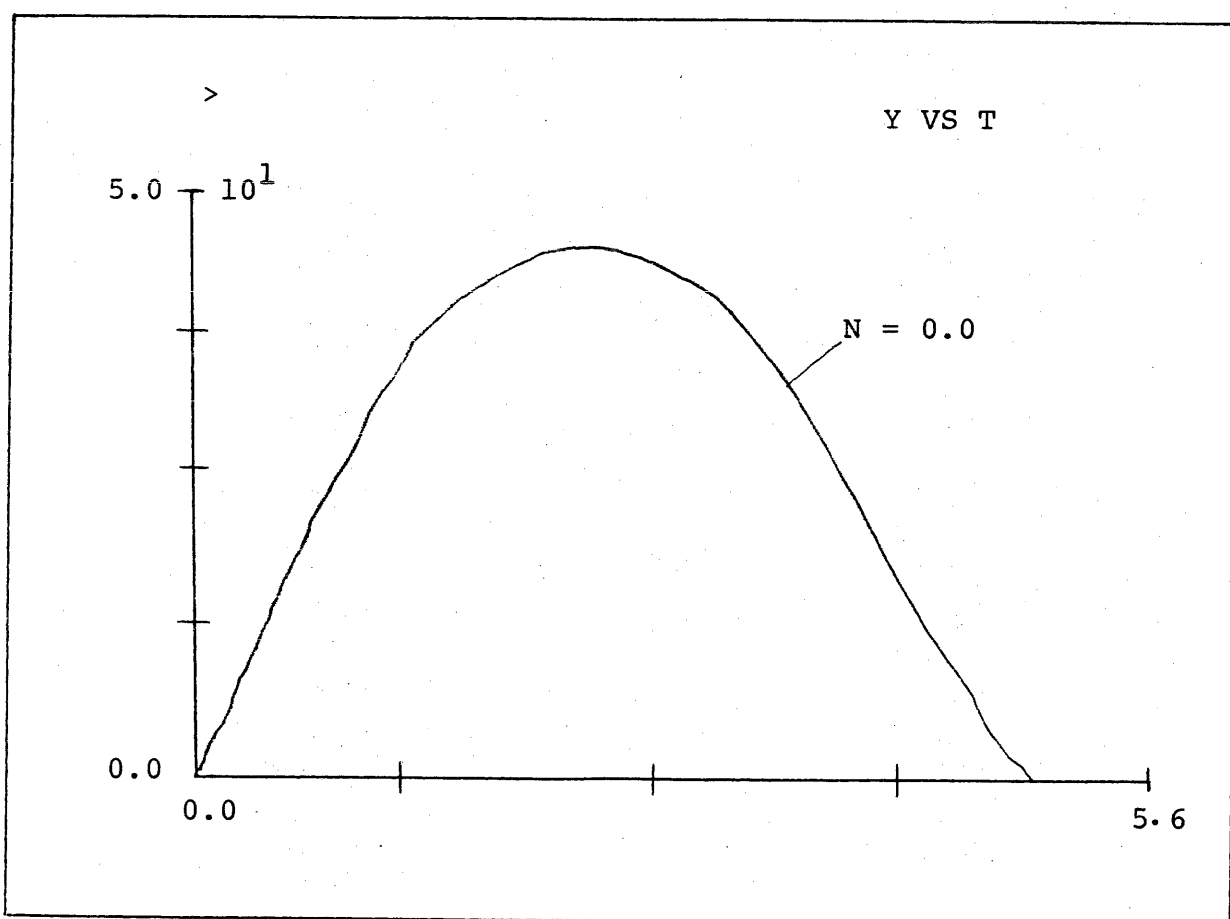
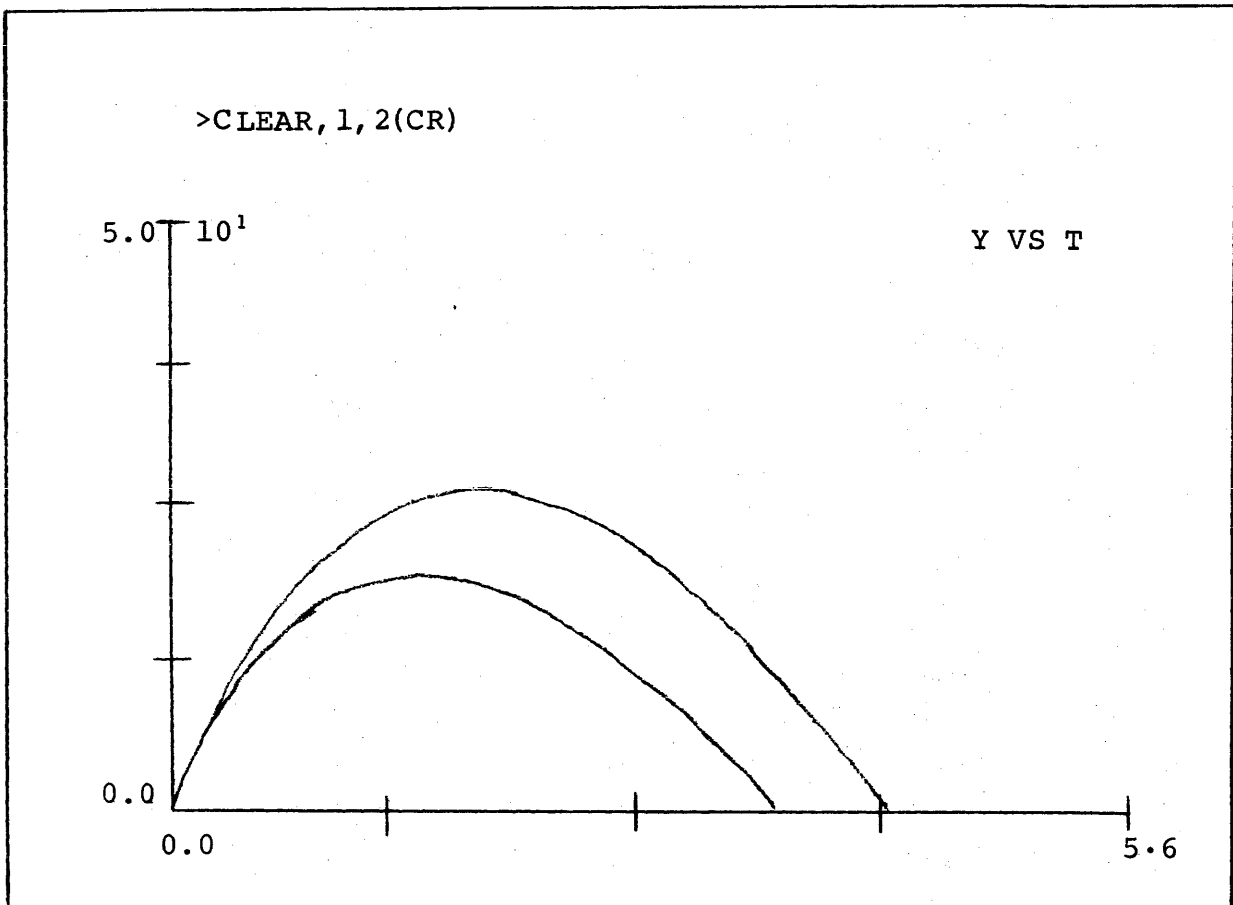

Figure 7. The curve labelling was accomplished using the (DEL) command. (See p. 48.)
Figure 8. This set of curves was generated by a CLEAR,1,2, using the functions of the previous example.
If the modifiers, r and m, are omitted then the values 0 and 1, respectively, are assumed, so that typing CLEAR(CR) and CLEAR,0,1(CR) are entirely equivalent. In the present example either of these forms would result in the curve and axis shown in Figure 7.
results are shown in Figure 8. Notice that there has been a screen erasure between Figures 7 and 8, so that the curve with $N=0$ is no longer present. Since the erasure may or may not be pedagogically useful, an alternate command, called JUMP, can be employed.
The general form of the JUMP command is JUMP,r,m. Except for the fact that JUMP does not erase the screen it is identical to the CLEAR command, so that in the above example JUMP,1,2(CR) would simply result in a superposition of the displays shown in Figures 7 and 8.